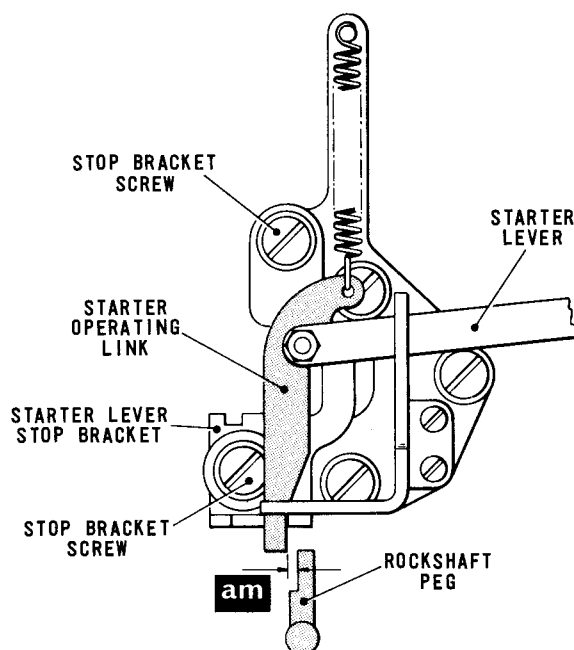
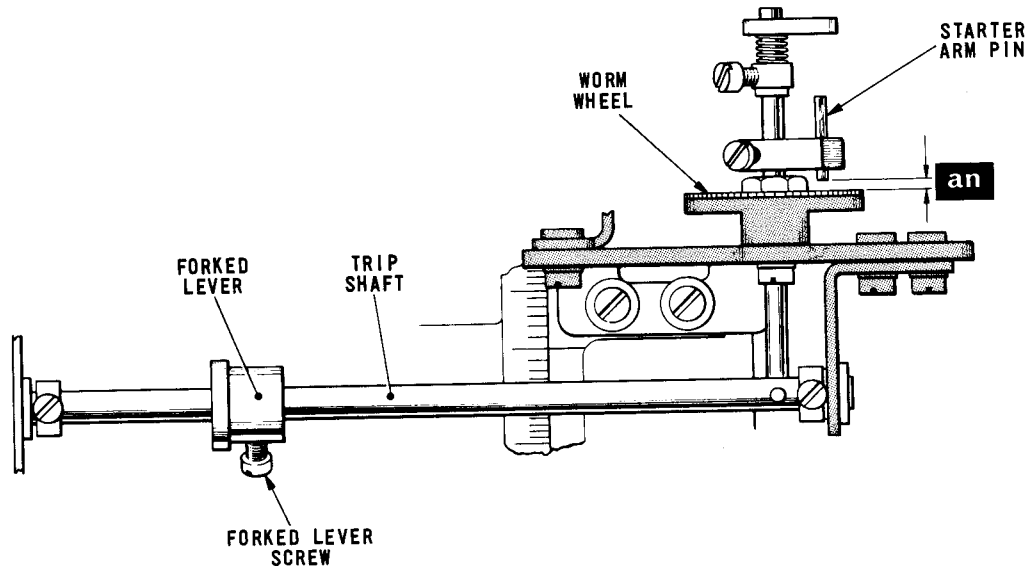

Fig. 4.31 STARTER TRIP FROM ELECTROMAGNET
Fig. 4.32 STARTER TRIP SHAFT LINKAGE
- 37.1 Disengage the starter arm pin, Fig.4.32, from the worm wheel. Depress the starter arm as far as it will go so that the starter lever, Fig.4.31, moves fully down. Holding the arm in this position, and with the electromagnet armature against the marking stop, check that there is a maximum clearance of .006 in. (dimension 'am') between the rockshaft peg and the starter operating link.
check that there is now a clearance of .005 - .010 in. (dimension 'an') between the starter arm pin, Fig.4.32, and the worm wheel.